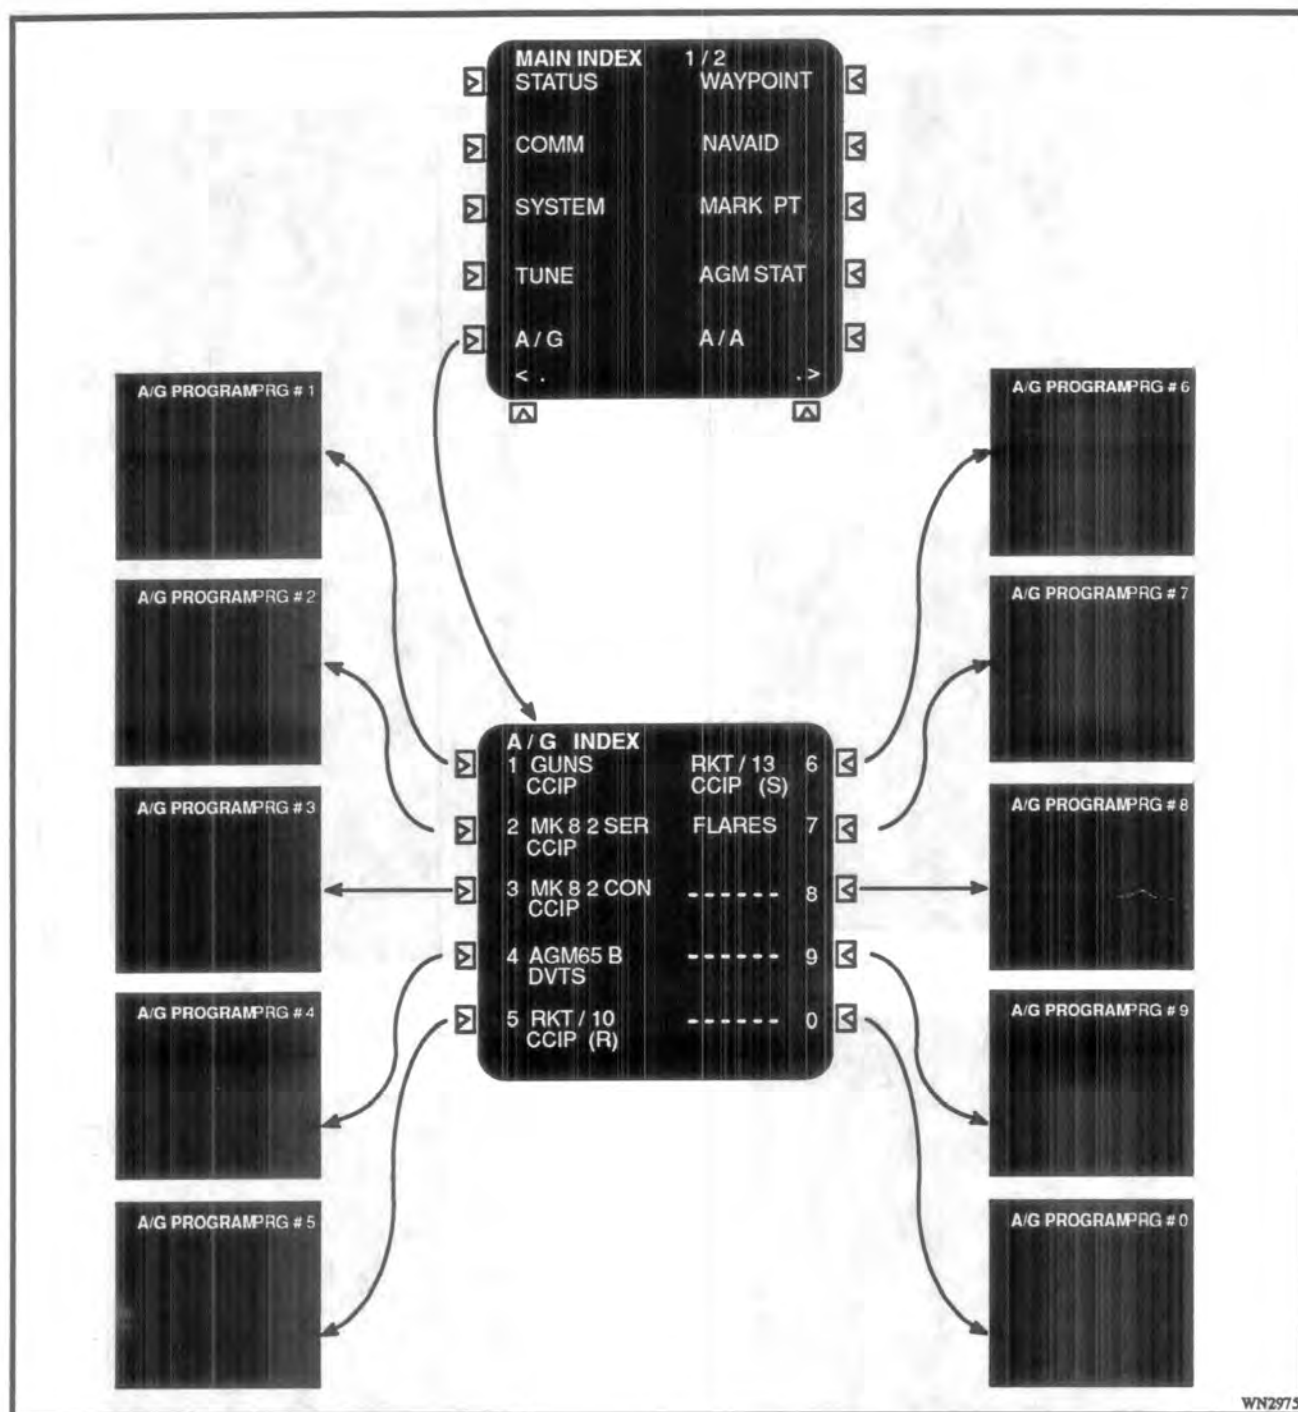

Figure 8-23 A/G INDEX Page
8.108 All 10 programs are set to the default program at power-on (MK82C, CCIP, ripple/single, quantity zero, 15 metre spacing, target elevation zero, break height 2900 feet, 10 sec/inst fusing, and safe arming). Programs can be altered at any time using the DU. A/G programs are manually loaded or altered by first selecting the A/G legend on the MAIN INDEX 1/2 page to display the A/G INDEX page as shown in Figure 8-23. This page shows the weapon and delivery mode currently specified in all 10 A/G programs.